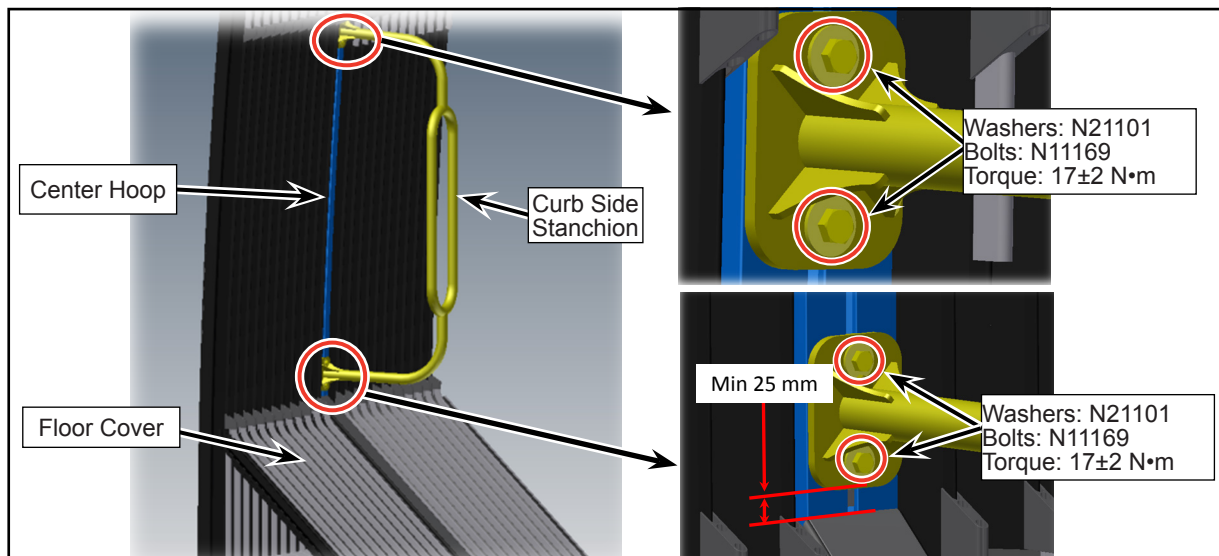

Figure 6 - Installation of New Stanchion
- 1.7. Install the new stanchion on to the tenon block present inside the center hoop profile with the hardware provided. Ensure that the stanchion provided is installed on curb side of the bus (see Figure 6).
- 1.8. Ensure that enough gap (Min. 25 mm) is left between the lower edge of the stanchion and the floor cover profile as shown (see Figure 6).
- 1.9. Apply blue thread locker and torque the bolts as specified (see Figure 6).